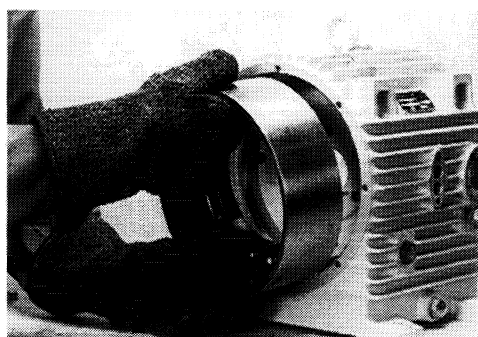

Fig. 26
Slide out the eccentric ring (39) and bearing carrier. If necessary, use a pry bar to loosen it (Fig. 26).